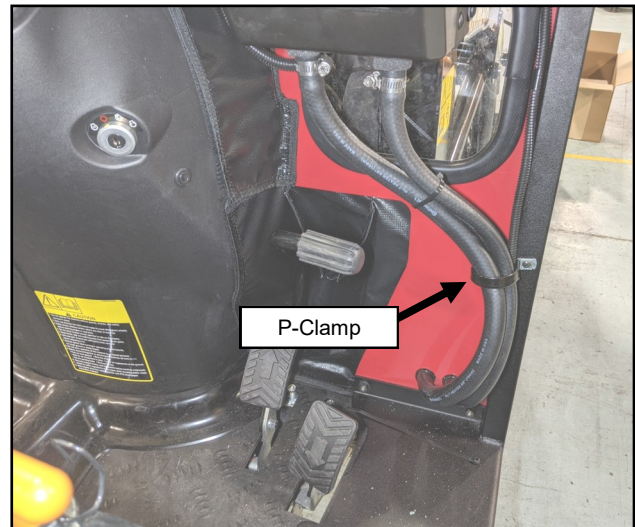

Fig. 18.16 (Connect Hose to Heater)
- 18.16** Inside the cab, cut the hose to length and connect to the heater with small hose clamps. See Figure 18.16.
- 18.17** Use the supplied large P-clip and a self-drill screw to secure the heater hose and wiring harness to the side frame. See Figure 18.16. Ensure the hose does not interfere with brake pedal use.